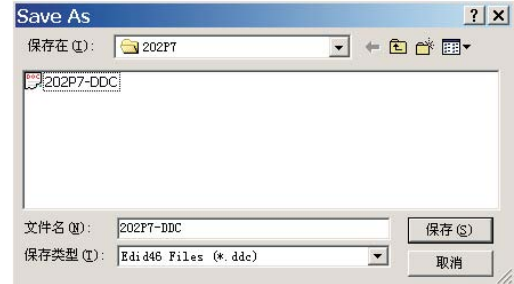

Fig. 25
1. Click **📁** (Save) icon (or click "file"-> "save as") from the tool bar And give a file name as shown in Fig. 25. The file type is EDID46 file (*.ddc) which can be open in WordPad. By using WordPad, the texts of DDC data & table (128 bytes, hex code) can be modified. If DDC TEXTS & HEX Table are completely correct, it can be saved as .ddc file to re-load it into DDC IC for DDC Data application.